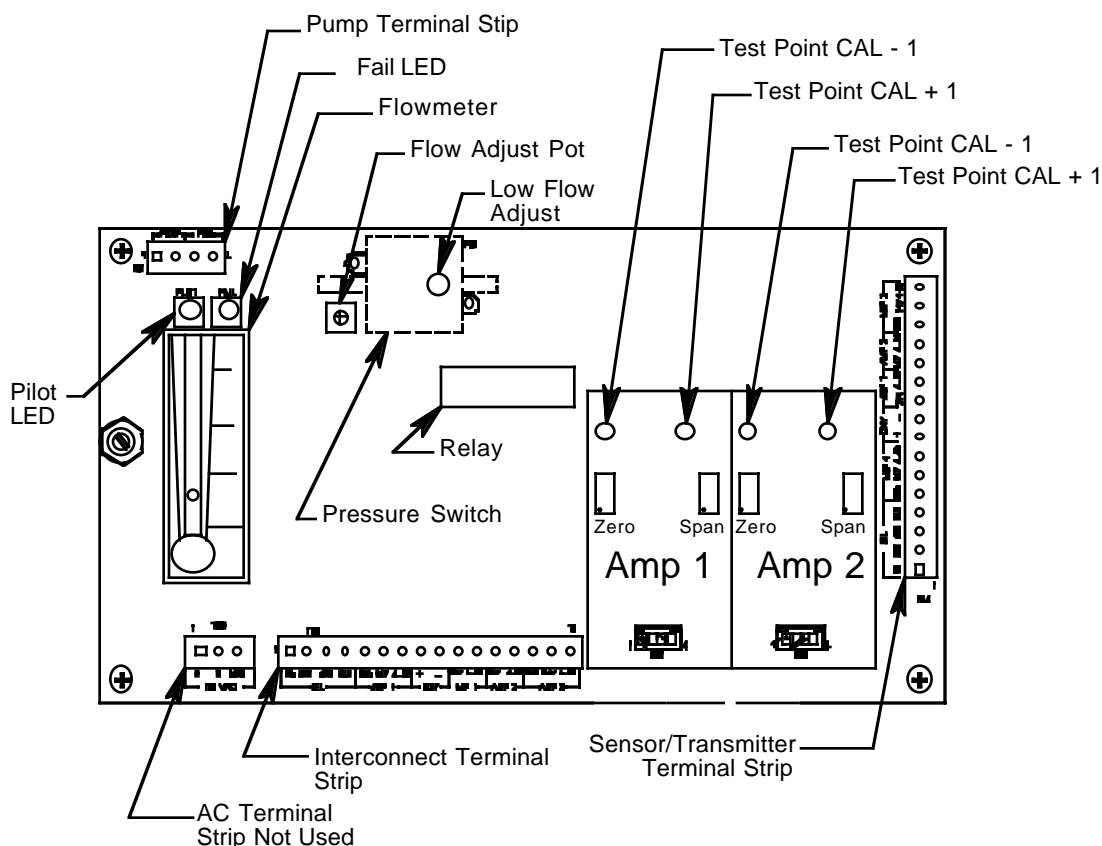

Figure 4: Main Circuit Board
The main circuit board includes the interconnect terminal strip, sensor/transmitter terminal strip, amp 1 circuit, amp 2 circuit, pump terminal strip, and relay (see Figure 4).
3. Connect the cable to the sample-draw detector's interconnect terminal strip as shown in Figure 4.